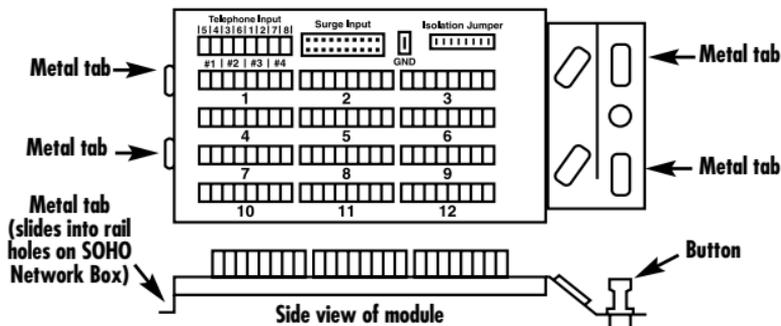

Figure 2-1. 12-Port Basic Telephone Module.
2. Position the metal tabs on the left side of the module at a 45-degree angle and slide them into the rail holes on the SOHO Network Box (see Figure 2-1).